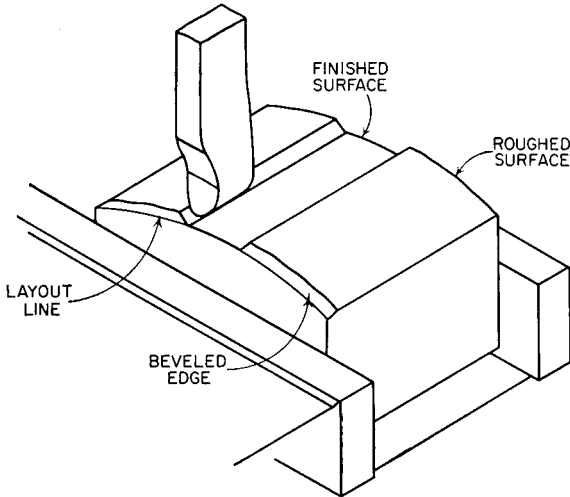

Fig. 2-51.
**Shaping an Irregular Cut.** A narrow irregular surface may be finished very efficiently with a forming tool. It will be better to hold the forming tool in a toolholder. Even if only a few pieces are to be shaped, it will probably be worth while to make a suitable forming tool. When machining a wider irregular cut, it usually is customary to lay out the irregular shape on the end of the work and machine to this line. When shaping an irregular piece to such a line, it is a good plan to rough to within a  $\frac{1}{16}$  or  $\frac{1}{32}$  of the line and then with a file bevel the edge to the line at an angle of 45 deg. or more, as illustrated in Fig. 2-51. With a suitable tool, with a round nose if convenient to use, machine off the bevel. If the bevel only is removed, then the surface is finished to the layout line. It is easier to see the bevel and gage the cut than it is to split the line without the bevel. When machining